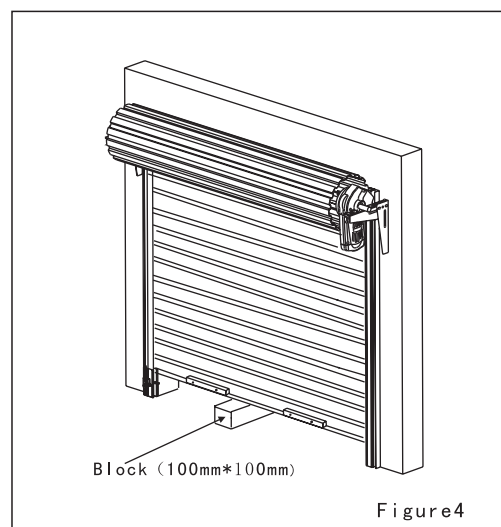

Figure4
6. TESTING THE REVERSE SENSITIVITY FORCE(see figure4)